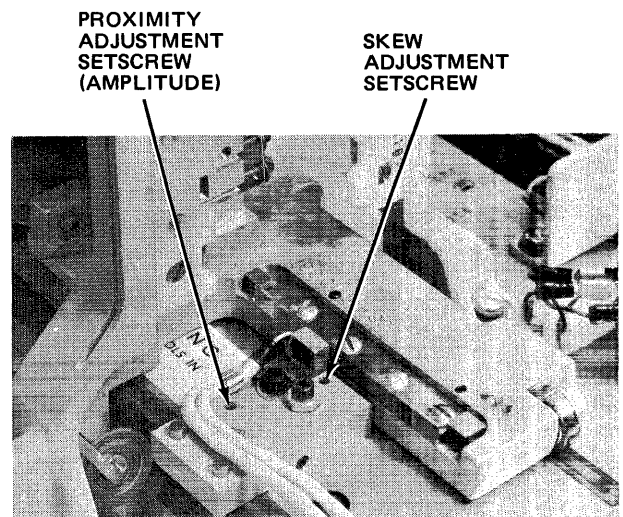

Figure 5-34. Cylinder Transducer, Rear Adjustment Screw
- g. While moving index rack back and forth past transducer, adjust rear setscrew on alignment tool until transducer amplitude reaches approximately 400 millivolts (see Figure 5-34).